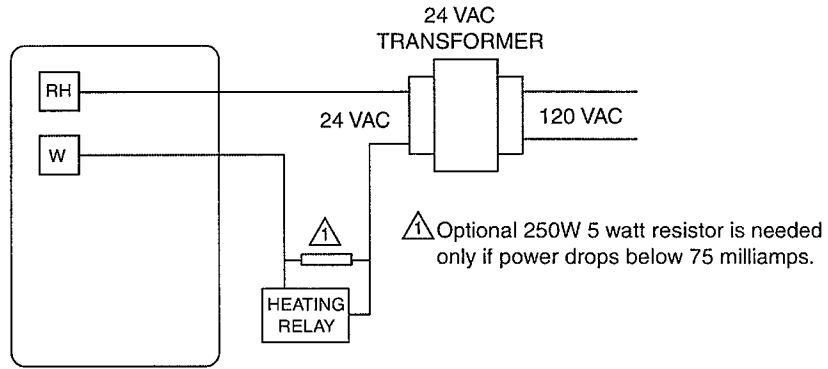

Figure-2 T201 Typical Wiring to Heating System With Single Transformer.
- Some systems may require a 250 ohm, 5 watt resistor (included) to be installed across the "W" and "C" terminals of the furnace or boiler control board (Figure-2) to assure proper current draw for the thermostat. Install the resistor if the thermostat setpoint cannot be adjusted, if the heating relay cycles too often (1-15 seconds), or if the heating relay will not cycle.
The T201 models are a heat only model with a "HEAT/OFF" system switch and no fan control. Applications include hydronic and radiant floor heating systems as well as gas and electric forced air heating systems. Refer to Figure-2.